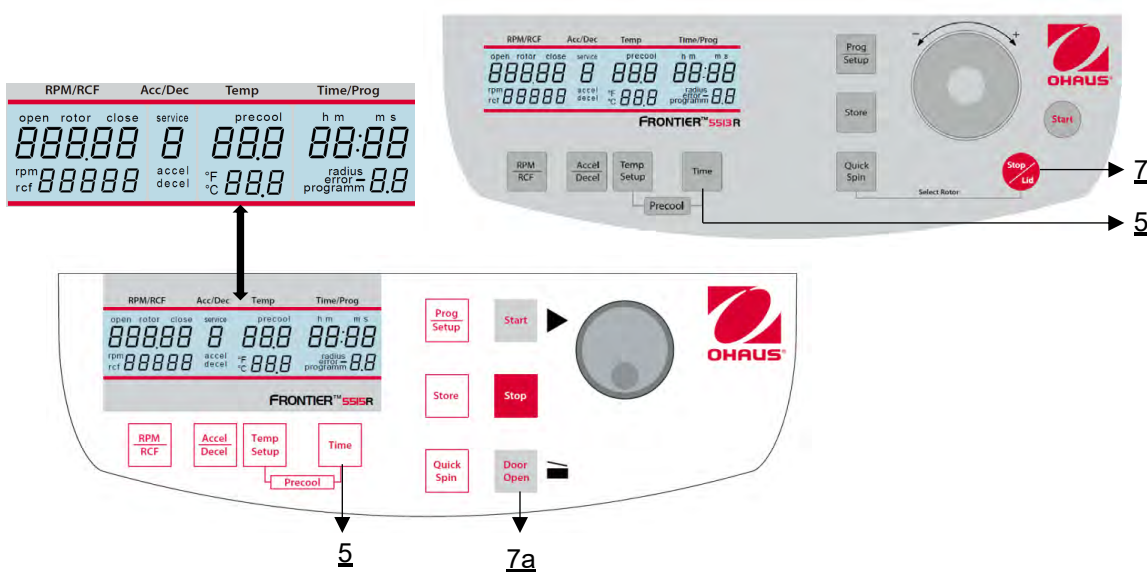

Figure 25
Open the centrifuge lid and shut off the main switch. Now switch on again the main switch. For approximately 3 seconds the model name will be shown in the display as well as the current software version. Press during this time the keys **"Time"** (5) and **"Stop/Lid"** (7) simultaneously. As a result, a display test is executed for approx. 3 seconds. All indicators will appear at the same time (see Figure 25).